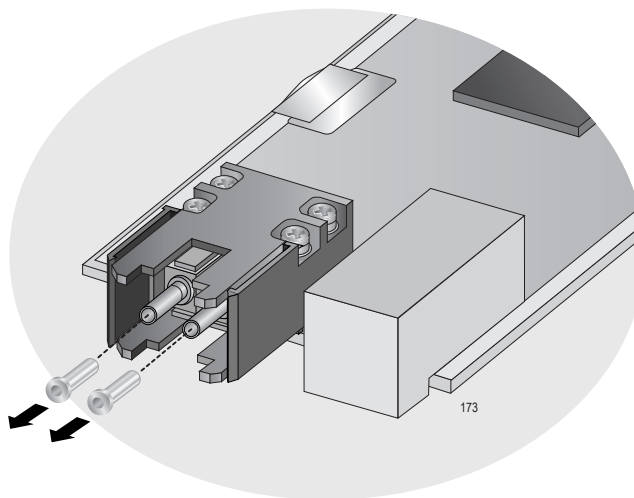

Figure 22. Removing the Dust Covers
4. Remove the dust caps from the fiber optic connectors at the back of the line card, as shown in Figure 22.